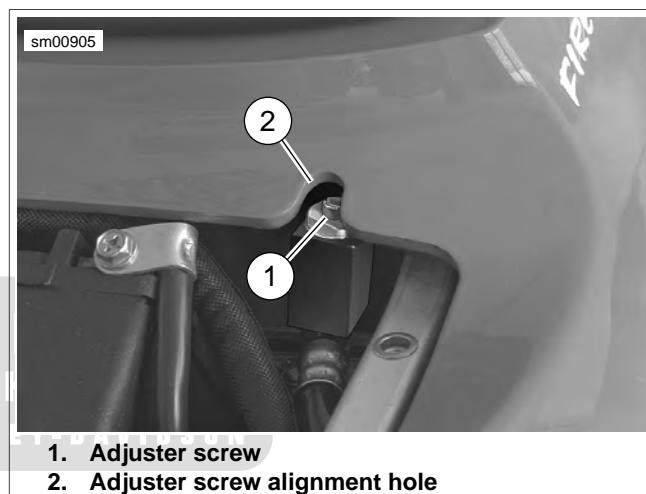

Figure 2-123. Adjuster Screw Alignment
- See Figure 2-123. Temporarily place upper body work onto tail section and adjust reservoir placement so the adjuster screw aligns with bodywork.